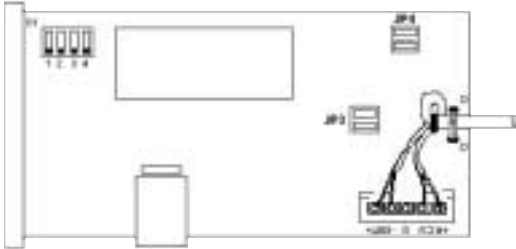

Figure 4-5. Completed Strain-Relief Assembly.
4. Place the cable through the end plate, and make a small loop in the cable and feed the cable under the tie wrap which is currently installed in the board. When you have completed this assembly, it should resemble the diagram shown in **Figure 4-5**. Connect one pair of wires to XMT+ and XMT- (transmit positive and negative) on the terminal block, making careful note of which color is positive, and which color is negative.